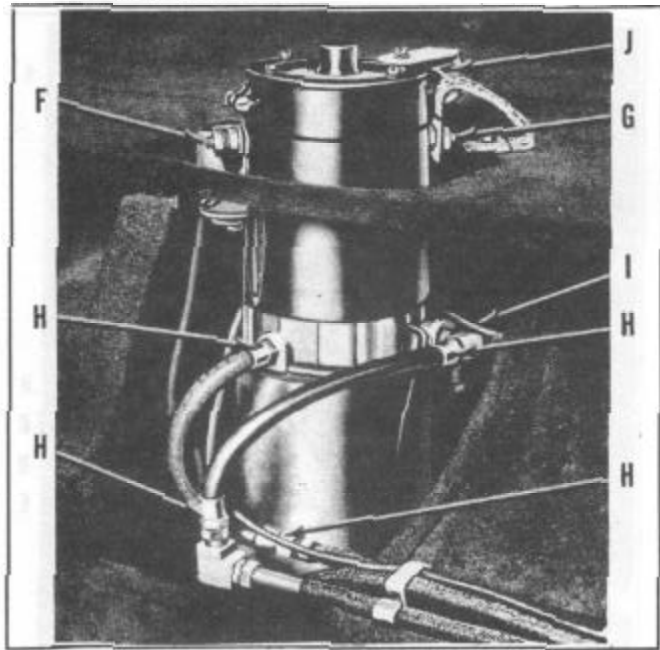

FIGURE 143
3. Disconnect battery cable and wires at motor solenoid (F), Figure 143.
4. Disconnect ground strap at (B) on motor.
5. Disconnect hydraulic inlet and outlet flexible hoses at (H) and remove vent tube (C) from rear of pump.
6. Remove nut and lockwasher from upper motor support (D) and lift complete unit up and out of well.